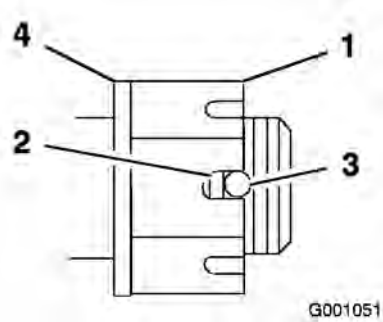

Figure 45
4. Torque the slotted nut to 125 ft-lb (170 N•m) (Figure 45).
- Check the distance from bottom of slot in nut to inside edge of hole. Two threads or less should be showing (Figure 45).
- Torque the slotted nut to 125 ft-lb. (170 N•m) (Figure 45).
- Tighten the nut until the next set of slots line up with the hole in the shaft (Figure 45).